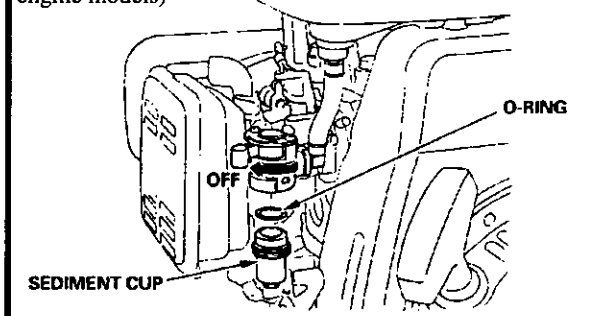

Figure 11-2 Sediment Cup and O-ring.
2. Remove the sediment cup and O-ring, refer Figure 11-2.